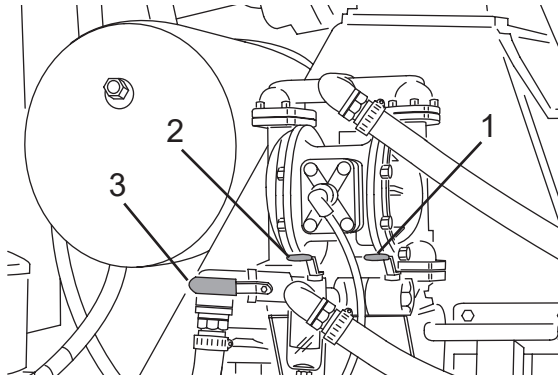

Figure 89
2. Close the purge valve (Figure 89, Item 1) at the pump inlet.
3. Open the main tank ball valve (Figure 89, Item 2) or chemical tank ball valve (Figure 89, Item 3) (if equipped) for the desired tank/water source.